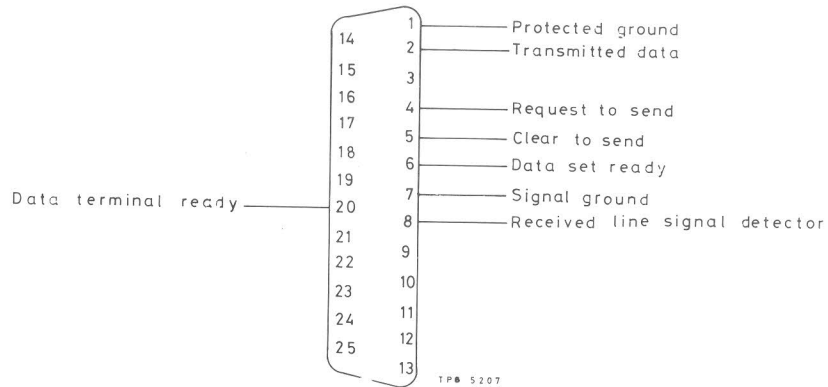

Fig. 17 Printer connector pin assignments
29. The RS-232-C connector wiring and input/output circuit on AA12 board is shown in Fig. 14. The RS-232-C Pin out assignments are shown in Fig. 17.